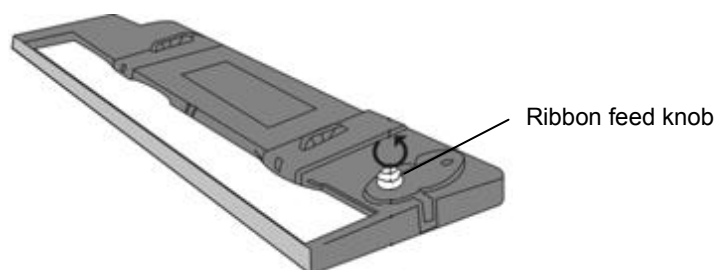

Figure 2-7 Ribbon cassette
4. Turn the ribbon feed knob in the direction of the arrow to remove any slack from the ribbon so it is easier to install. (As Figure 2-7 shown)